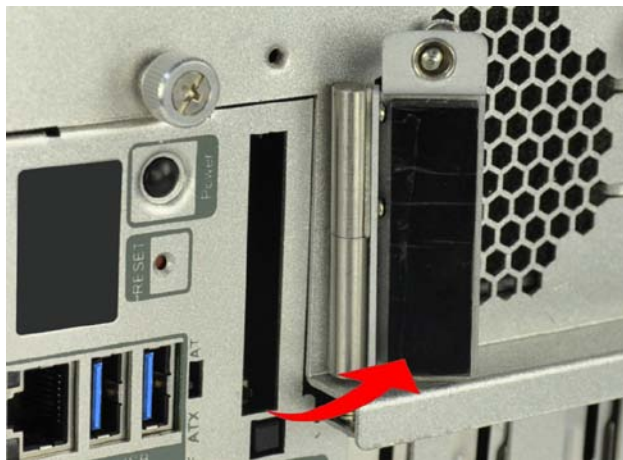

Figure 3-2: CFast Socket Cover
Step 2: Open the CFast socket cover (Figure 3-2).